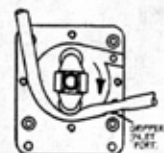

Figure 9-2
- 7 Push the new pump tubing into the inlet port, anchoring the tubing in the grippers as shown in Figure 9-2, while rotating the bracket assembly.